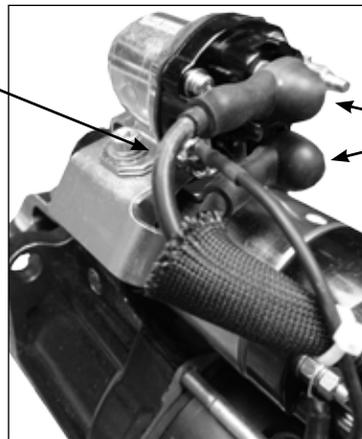

Fig 6
Step 7: Attach wires to new relay. (Fig 6)